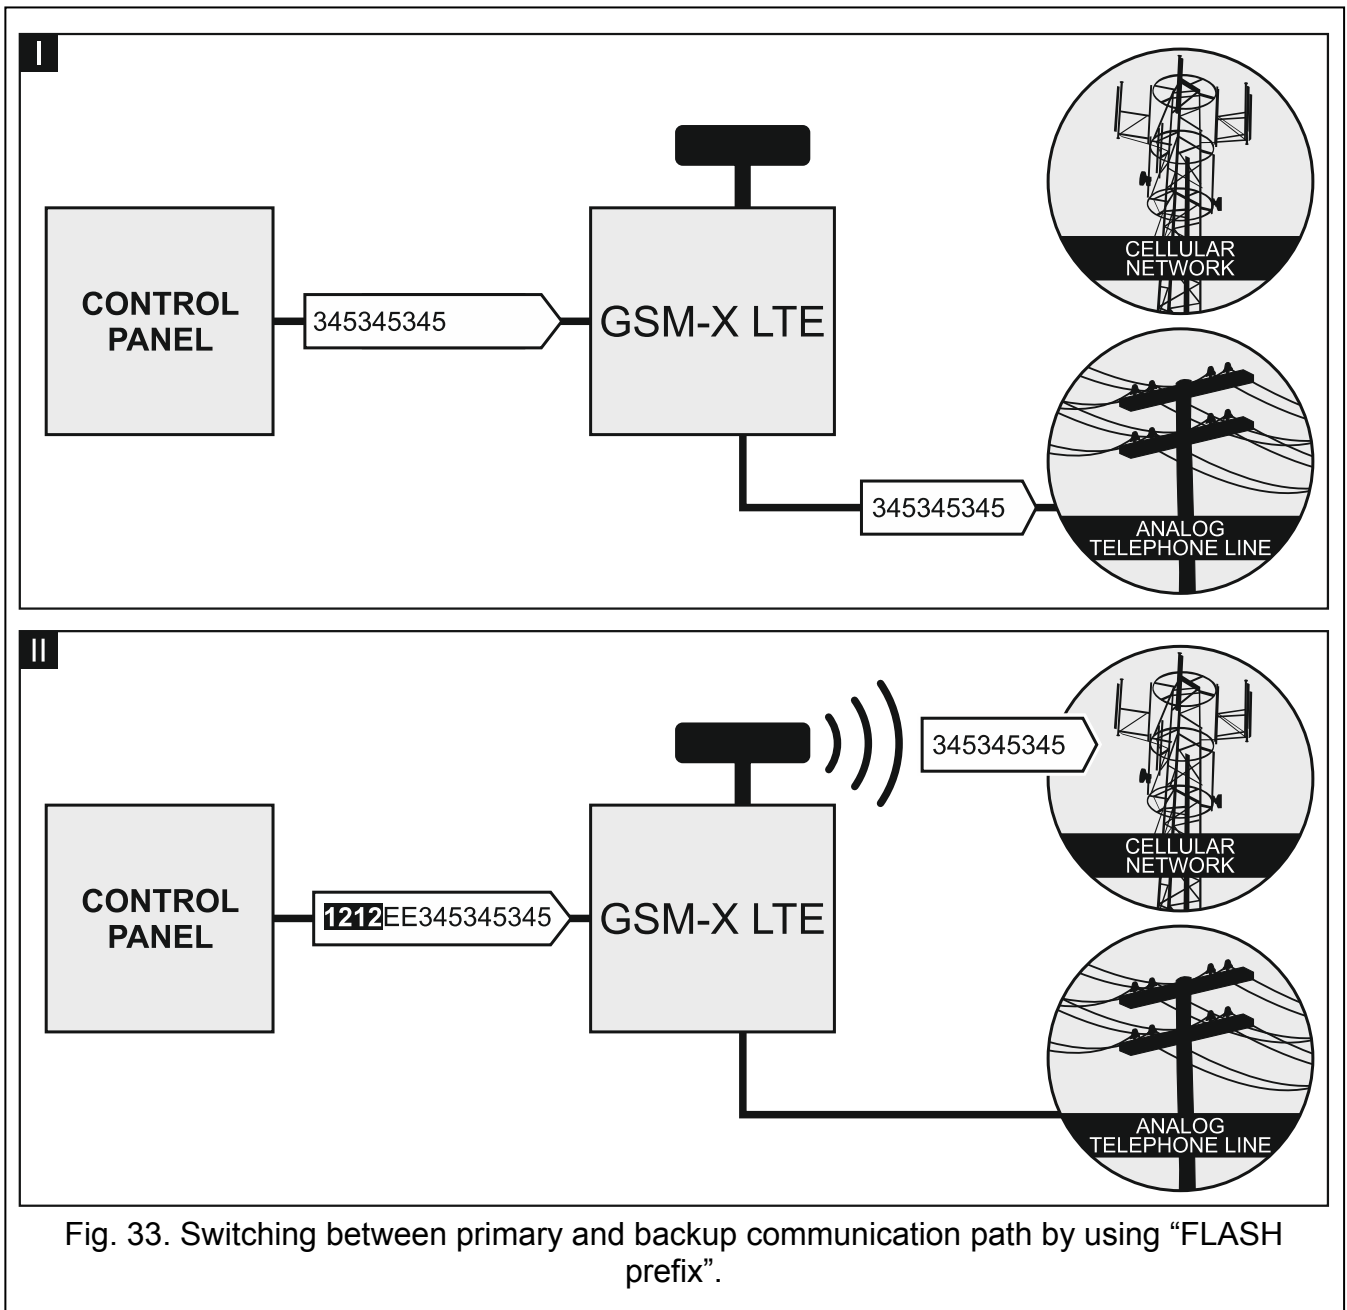

Fig. 33. Switching between primary and backup communication path by using “FLASH prefix”.
**FLASH prefix** – a string of up to 16 digits for switching between the primary communication path and the backup one. To set the primary communication path, use the “GSM as a primary telephone line” option. In the example shown in Fig. 33, analog telephone line is used as the primary communication path. If the telephone number the control panel is calling is preceded by a prefix (a string of digits against black background – Fig. 33-II), the backup path will be used i.e. cellular telephone. In the control panel, you must program two pauses after the prefix, before the telephone numbers, by entering two E or F characters.